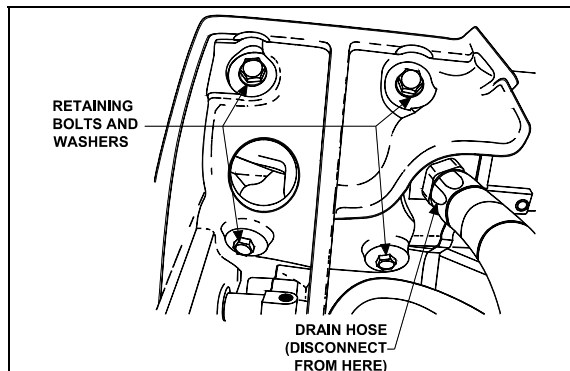

FIGURE 23: ALTERNATOR RETAINING BOLTS AND WASHERS 06350
lines to prevent entry of foreign matter. Disconnect oil drain hose from bottom of alternator (Fig. 23) and tape line to prevent entry of foreign matter.
7. Remove the four bolts and lock washer retaining alternator (refer to fig. 23).